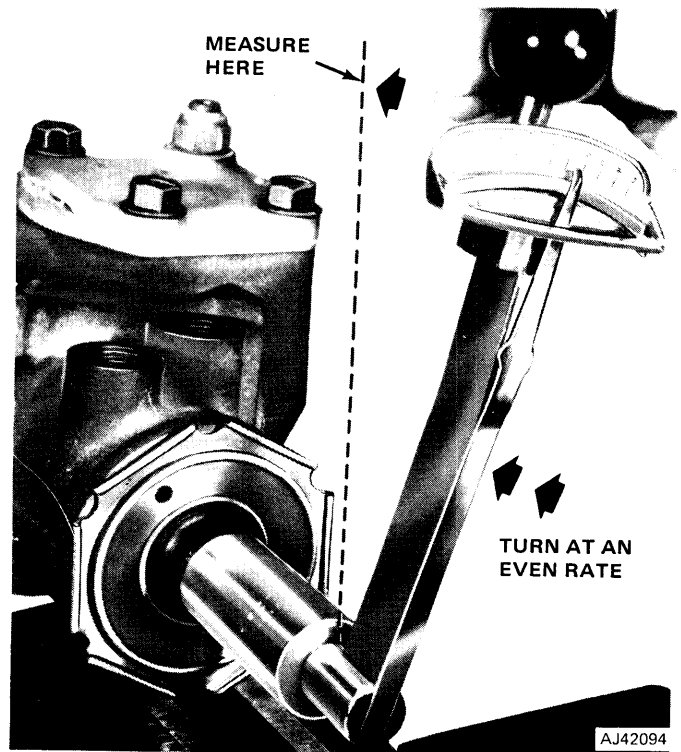

Fig. 11-94 Measuring Wormshaft Bearing Preload
(4) Turn adjuster plug counterclockwise until hole in plug is aligned with second mark.
(5) Install and tighten adjuster plug locknut to 85 foot-pounds torque using Tool J-25194. Do not allow the adjuster plug to turn while tightening locknut.
(6) Turn stub shaft clockwise to stop, then turn stub shaft back one-quarter turn.
(7) Assemble and install torque wrench with maximum capacity of 50 inch-pounds and 12-point deep socket on splined end of stub shaft (fig. 11-94).
(8) Measure torque required to turn stub shaft. Take reading with beam of wrench at or near vertical position while turning stub shaft at an even rate (fig. 11-94).
(9) Record reading. Torque required to turn stub shaft should be 4-to-10 inch-pounds torque.